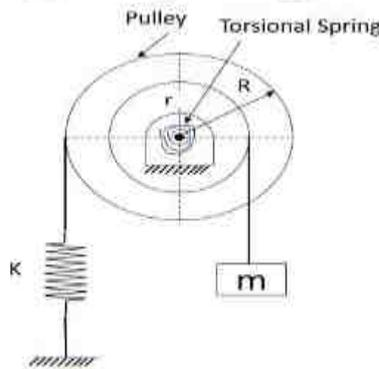

Fig.01 [10M]
Q.2 (a) Find the system's natural frequency shown in Figure 01. [10M]